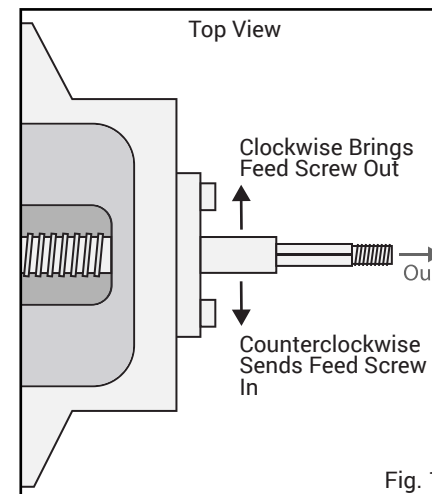

Fig. 1
- (2) Crank Handles
- If necessary, adjust the longitudinal (top) feed screw until the handle-mounting portion of the feed screw protrudes beyond the vise body, as shown in Fig. 1 below. Turning the feed screw clockwise retracts it; turning it counterclockwise advances it. Turn the feed screw fully clockwise until it can no longer retract.